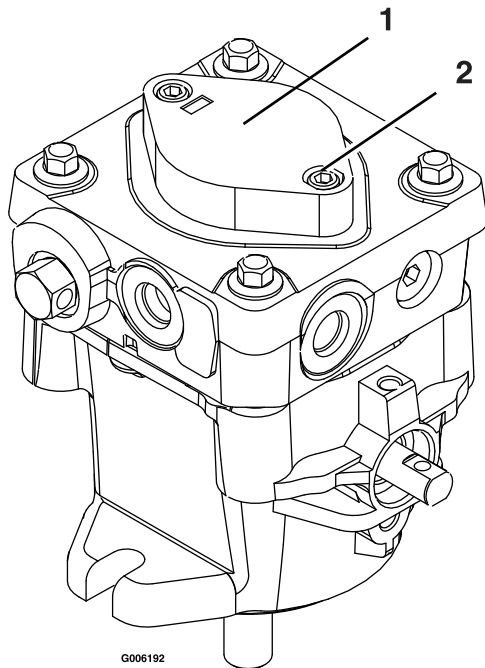

Figure 14
7. If either drive wheel does not rotate, one or both of the charge pumps (located on the top of the main pump as shown in Figure 14) may have lost their “prime”. Refer to **Hydraulic System Air Purge** section.
The critical area for purging air from the hydraulic system is between the oil reservoir and each charge pump located on the top of each variable displacement pump (Figure 14). Air in other parts of the hydraulic system will be purged through normal operation once the charge pump is “primed”.
5. To “prime” charge pump, loosen two hex socket head capscrews (shown in Figure 14) **1 1/2 turns only. Make sure engine is not running.** Lift the charge pump housing upward and wait for